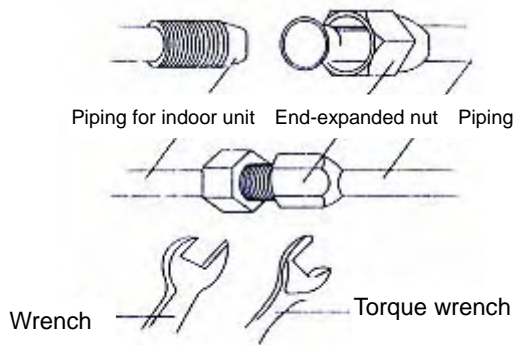

Fig.11-18
- Tighten the bell-mouthed nut with torque wrench, until you hear a click sound. See Fig.11-18. The torque specification is shown in Table 11-3.